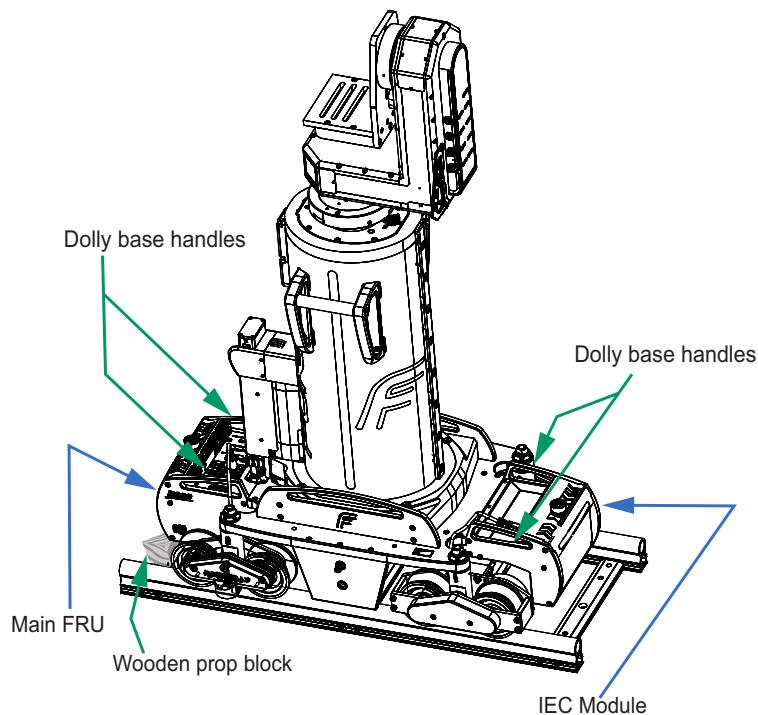

Figure 5 - Dolly Handles and Block
6. Have one or two people lift and hold up the end of the dolly by the dolly base handles while another places a wooden prop block underneath the dolly's Main FRU. Refer to **Figure 5**.